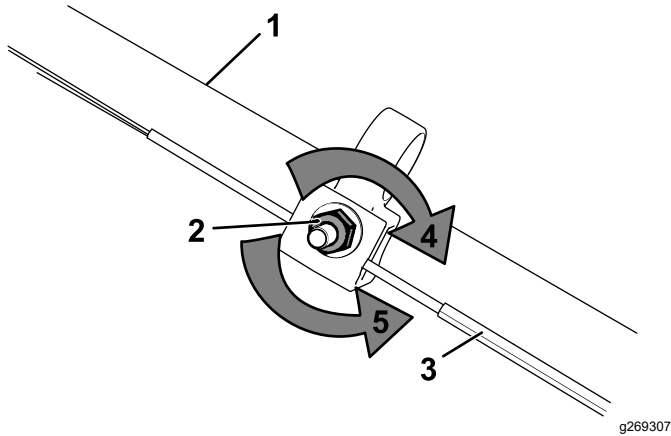

Figure 34
1. Turn the adjustment nut counterclockwise to loosen the cable adjustment (Figure 34).
2. Adjust the tension on the cable (Figure 34) by pulling it back or pushing it forward and holding that position.